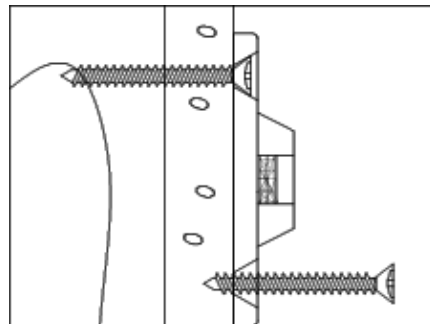
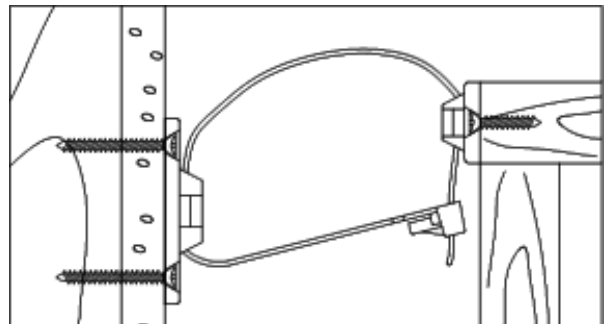

Figure 2
Figure 3
- 3) MOUNTING THE WALL-SIDE MOUNTING PLATE :** Position the wall-side mounting plate along the selected stud mark so that it will be adjacent the furniture-side mounting plate when the furniture item is moved to its final position. The wall-side mounting plate should be about ONE inch lower than the furniture-side mounting plate (See Figure 3). Use the TWO Long screws to secure the wall-side mounting plate to the wall. Remember to position the wall-side mounting plate vertically so that both screws will engage the selected wall stud (See Figure 2).